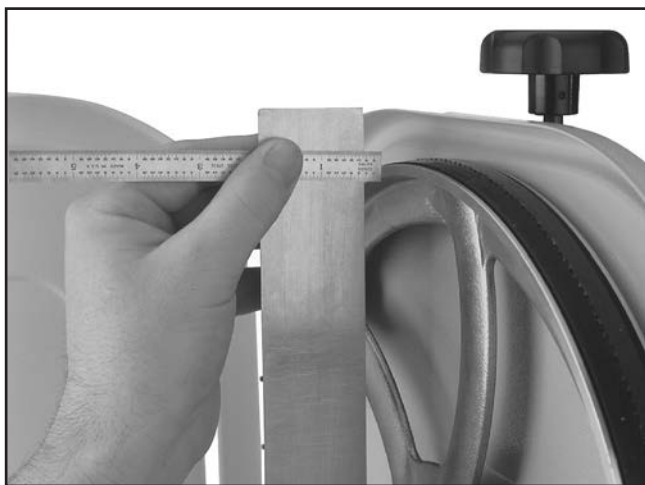

Figure 61. Measuring the distance to shim the wheel to be coplanar.
3. With straightedge touching both rims of wheel that does not need to be adjusted, measure distance away from other wheel with a fine ruler, as shown in **Figure 61**. The distance measured with ruler is the distance this wheel must be shimmed.